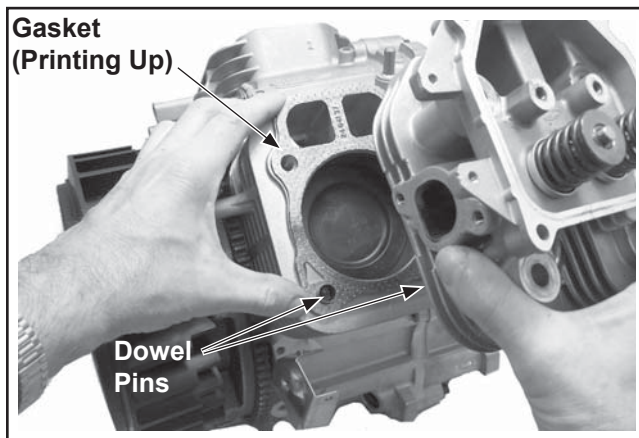

Figure 10-43. Installing Cylinder Head Gasket and Cylinder Head.
2. Install a new cylinder head gasket (with printing up) on each side. See Figure 10-43.